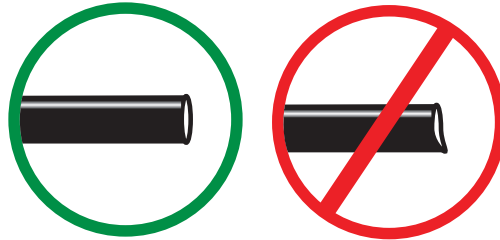

fig. 9
WHEN CUTTING OR TRIMMING THE AIR LINE, USE A HOSE CUTTER, A RAZOR BLADE OR A SHARP KNIFE. A CLEAN, SQUARE CUT WILL ENSURE AGAINST LEAKS. DO NOT USE WIRE CUTTERS OR SCISSORS TO CUT THE AIR LINE. THESE TOOLS MAY FLATTEN OR CRIMP THE AIR LINE, CAUSING IT TO LEAK AROUND THE O-RING SEAL INSIDE THE ELBOW FITTING (FIG. 9)
- Cut off air line leaving approximately 12" of extra air line. A clean square cut will ensure against leaks (see Fig. 9). Insert the air line into the air fitting. This is a push to connect fitting. Simply push the air line into the 90° swivel fitting until it bottoms out (9/16" of air line should be in the fitting).
- a. Check the air line connection by deflating the spring and removing the line by pulling the collar against the fitting and pulling firmly on the air line. Trim 1" off the end of the air line. Be sure the cut is clean and square (see Fig. 9). Reinsert the air line into the push-to-connect fitting.